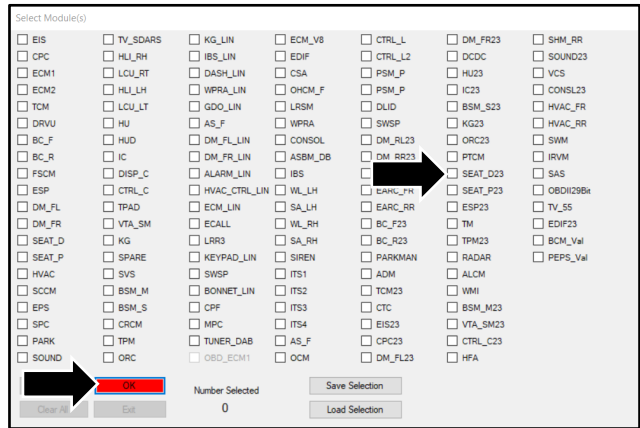

Figure 11
- Select the “SEAT\_D23” module then click the “OK” button (refer to Figure 11).